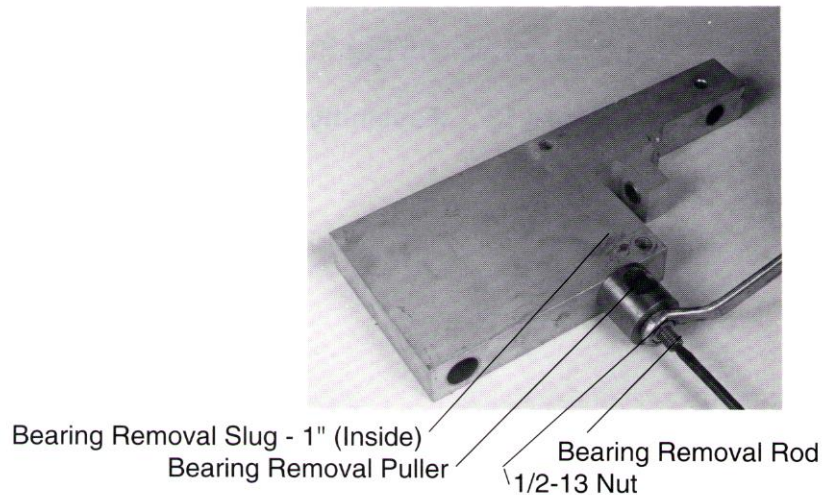

Figure 19a. Remove Bearings from Upper Drive Arm
12. Remove sleeve bearings from upper and lower drive arms. Refer to figures 19a., 19b. and 20.